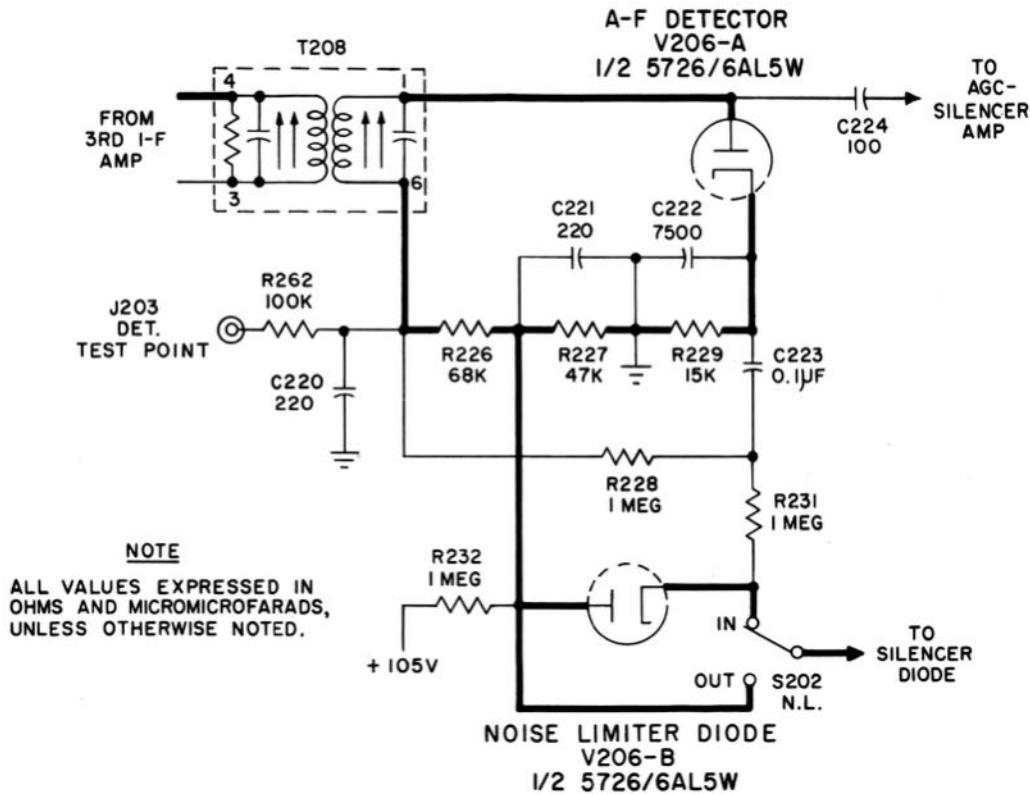

Figure 2-8. A-F Detector and Noise Limiter Circuits, Simplified Schematic Diagram
c. AUDIO-FREQUENCY DETECTOR.—The audio-frequency detector, V206A, is one half of a type 5726/6AL5W twin diode; see figure 2-8. The i-f signal from terminal 1 of transformer T208 is applied to the diode plate. Resistors R226, R227 and R229, connected between the diode cathode and terminal 6 of T208, constitute the diode load. These resistors are bypassed for radio frequencies by capacitors C220, C221 and C222. The audio-frequency output, obtained from the junction of resistors R226 and R227, is applied through the noise-limiter diode and the silencer diode (either or both of which can be disabled—the noise limiter mechanically and the silencer electrically) to the grid of the first a-f amplifier.
d. NOISE LIMITER.—Diode V206B, one half of a type 5726/6AL5W twin diode, functions as a series-type noise limiter. It is connected between the a-f detector and the silencer diode; see figure 2-8. The N.L. (noise limiter) switch S202, cuts the noise limiter in or out of the circuit as desired for operating conditions. When switch S202 is in the OUT position, the audio signal obtained at the junction of resistors R226 and R227 is applied directly to the silencer circuit; noise limiter V206B has no effect on the signal. However, when switch S202 is set at IN, the noise limiter functions as follows: